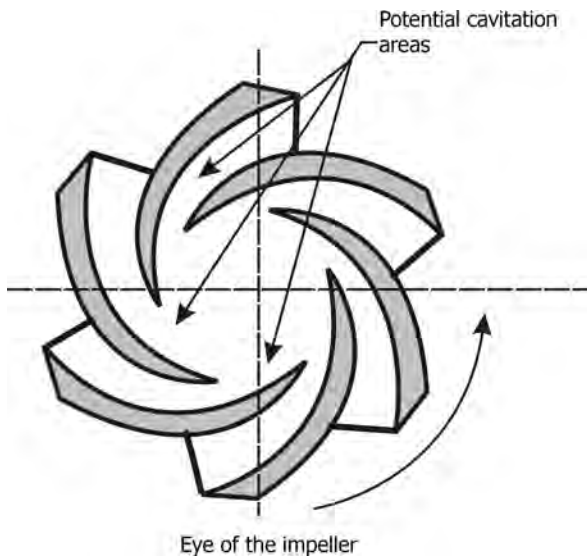

FIGURE 5.9 Potential cavitation damage areas in the eye of pump impeller.
- Figure 5.9 shows the potential cavitation damage areas of a pump impeller.